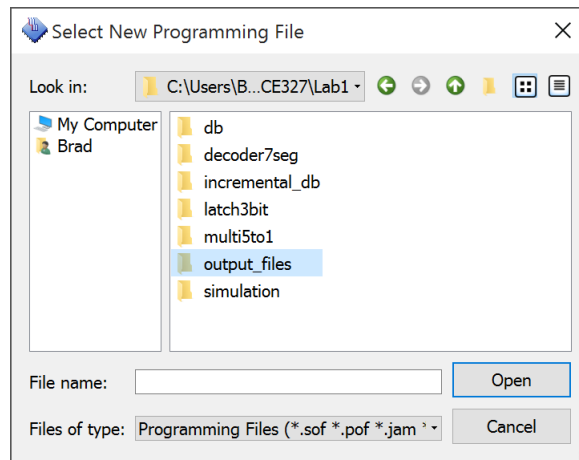
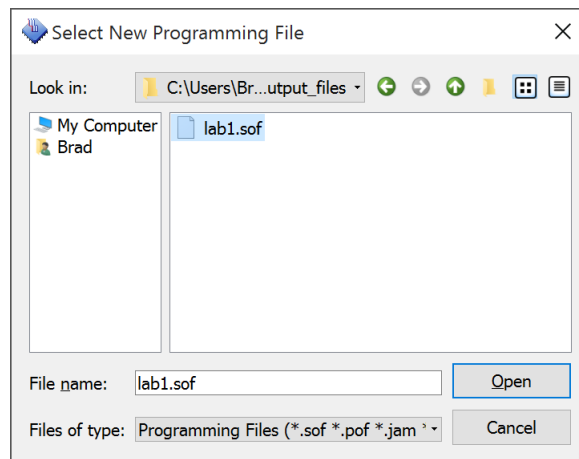

Figure 8: Output file folder in working directory.
Figure 9: Example .sof file for programming.
6. The file you are programming to the FPGA can be found in the “output\_files” folder inside of your projects working directory, as shown in Figure 8. Select the .sof file within the folder as shown in Figure 9.